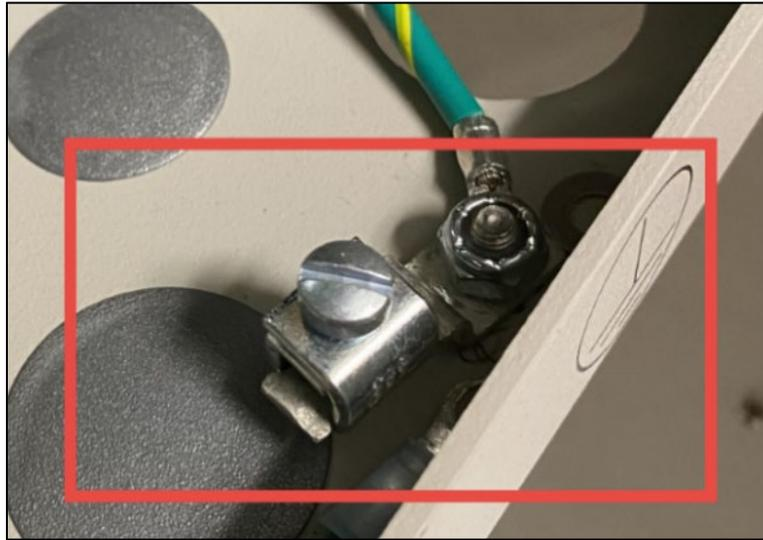

Figure 18 Grounding the Power Conditioner
6. Attach the Power Conditioner's green earth-ground wire to the pedestal ground lug. After confirming the incoming earth-ground is attached to the ground lug, reattach the nut using a 11/32-inch socket wrench (Figure 18).